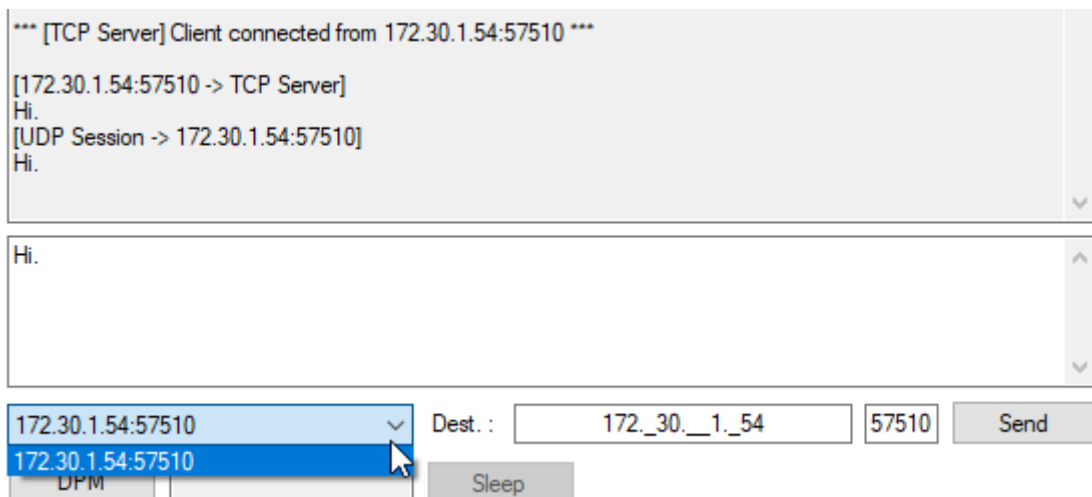

Figure 29: TCP Server Data Transfer
- **TCP Server:** Select the **TCP Server** checkbox → Select the destination IP in the drop-down list → Type a message → Click the **Send** button (see Figure 29)